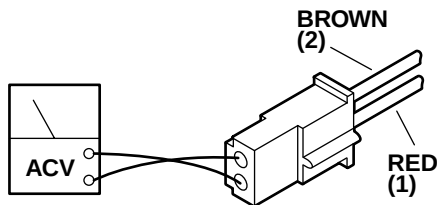

Figure 6-6. Connector CN18 Test
2. Connect CN15, disconnect CN18 (brown and red wires) and using an AC voltmeter, test the transformer output at CN18. See figure 6-6.